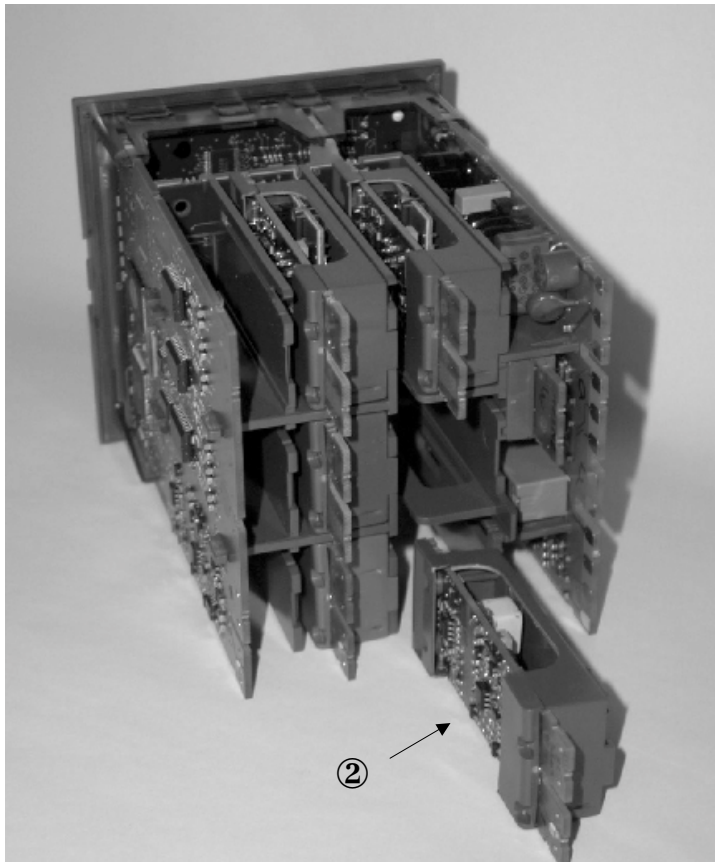

Figure 1-6: View of the Plug-in Modules
1. Remove the controller from its sleeve by pushing both latching ears (1) (Figure 1-6) outwards and easing the controller forwards from its sleeve. It should not be necessary to use any tools for this.